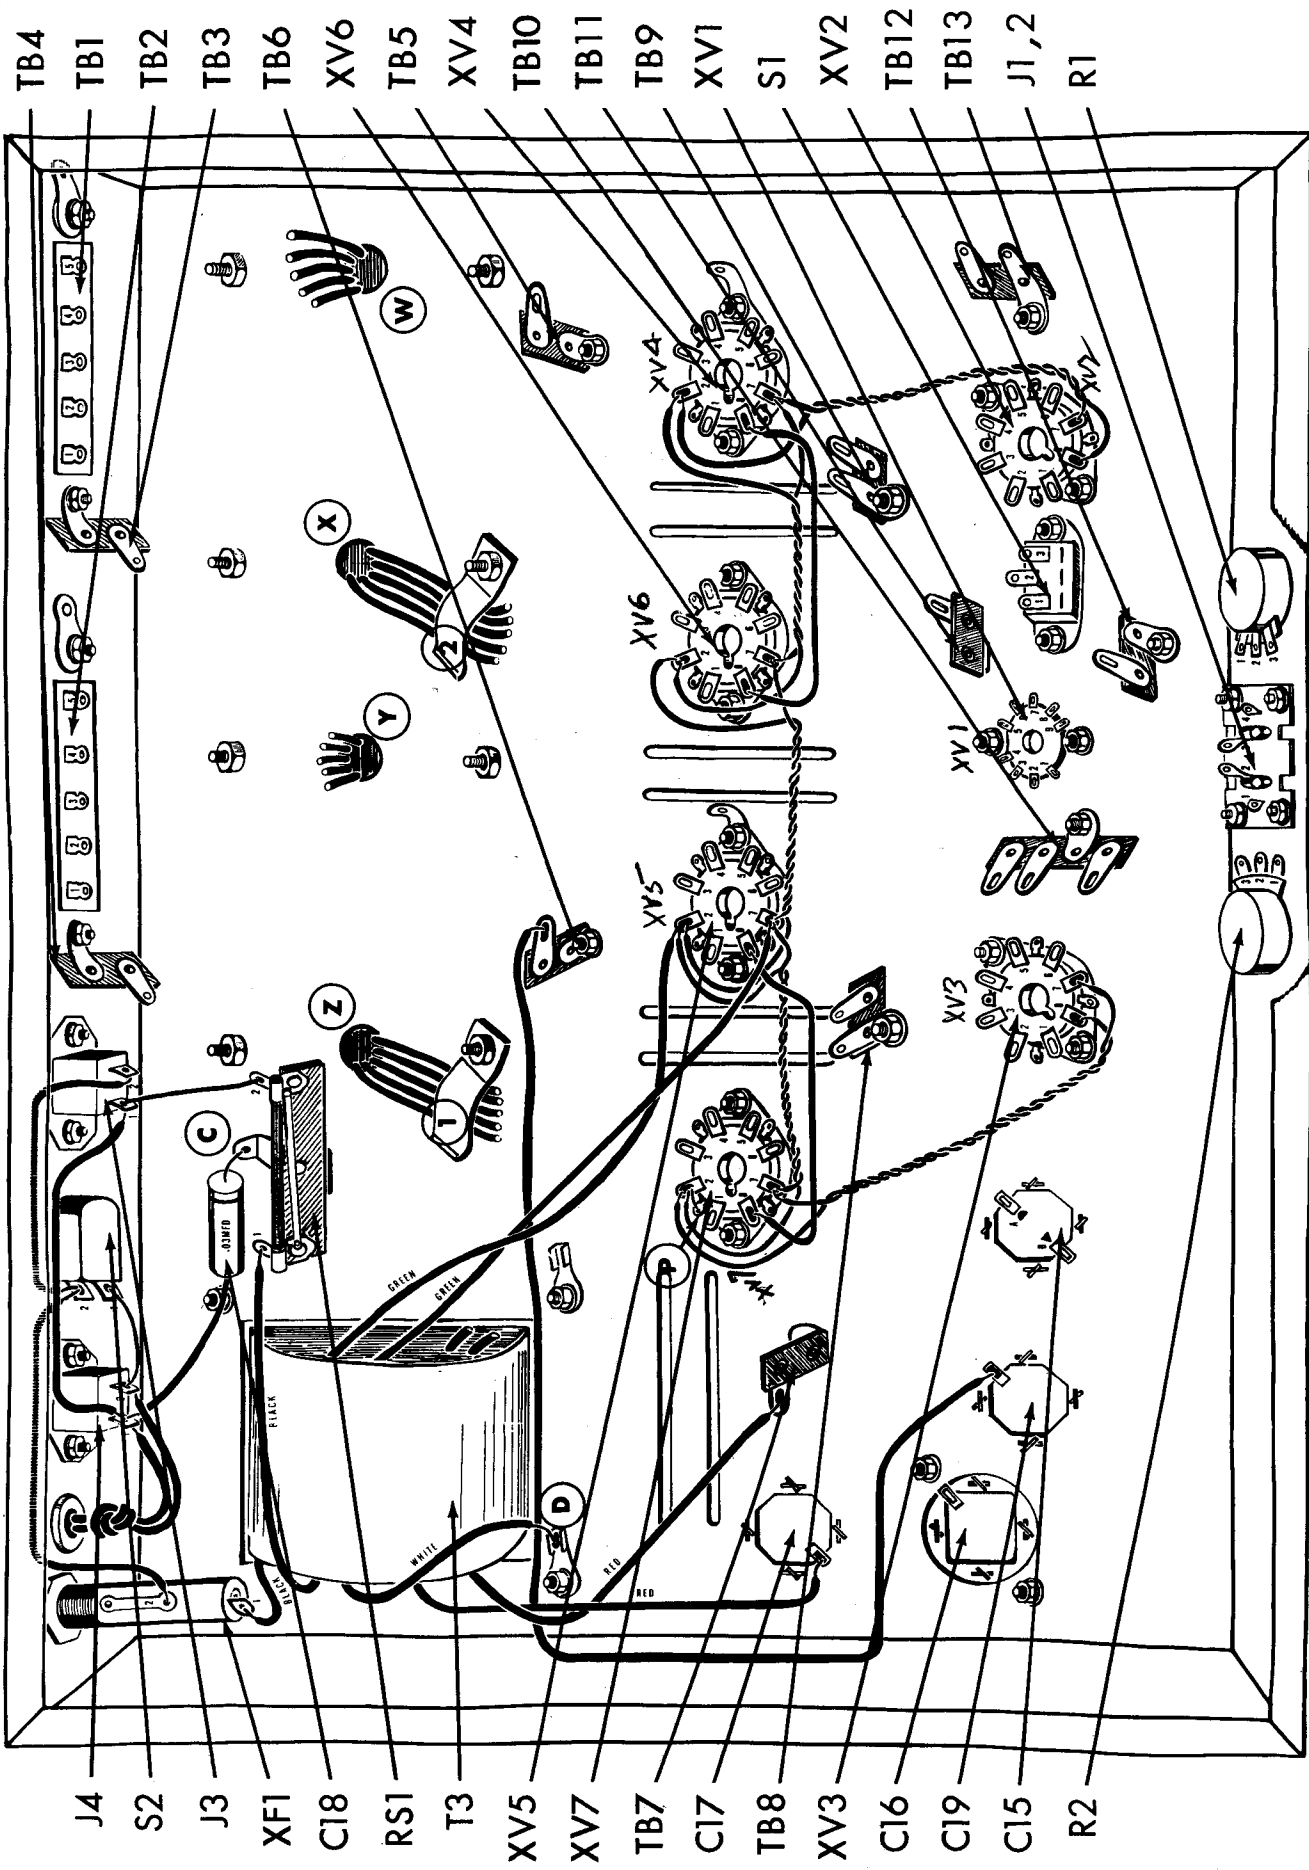

Fig. 3
1. Fig. 1. On power transformer T3, cut both green leads to 9", one red lead to 6", the other red lead to 7", the white lead to 3", one black lead to 2", the other black lead to 4", and the two blue leads to 1/4" each. On each of these leads (except the blue leads), strip the insulation back 1/4". The blue leads will not be used and the insulation should not be stripped off. Mount the transformer as shown with the green leads toward the center of the chassis and the black leads close to the side of the chassis. Use four #8 lockwashers and four #8-32 hex nuts to secure the transformer to the chassis. Under each of two of the lockwashers, mount a #8 ground lug, as shown in Figure 3.
4. Fig. 1. From below the chassis, mount the 3 post 2 right terminal strip, TB 10; the one post left terminal strip, TB 12; and the one post left with ground terminal strip, TB 13, as shown. Orient these terminal strips as shown in figure 3. Use one #6-32 screw, one #6 lockwasher and one #6 hex nut to secure each terminal strip to the chassis.
1. Fig. 3. Connect a 15" piece of red wire from C19 (C) to TB6 (C). Run this lead along the chassis as shown.
2. Fig. 3. From power transformer, T-3, connect the white lead to ground lug "D" (C), the short black lead to XF1-1 (S1) and the longer black lead to RS1-1 (S1). Twist the two red leads together as shown. Connect one red lead to C17 (C) and the second red lead to TB7 (C).
3. Fig. 3. Connect a 5" piece of gray wire from XF1-2 (S1) to S2-2 (C).
4. Fig. 3. Connect a 4" piece of gray wire from S2-2 (S2) to J3-2 (S1).
5. Fig. 3. Connect a 1 1/4" piece of bare wire from J4-2 (C) to S2-1 (S1).
6. Fig. 3. Connect a 5" piece of gray wire from J4-1 (C) to J3-1 (C).
7. Fig. 3. Connect a 2" piece of bare wire from J3-1 (S2) to RS1-2 (S1).
8. Fig. 3. Cut one lead on a .03 mfd (orange, black, orange, black, blue) molded capacitor C18 to 1 1/4". Cover this lead with a 1" piece of spaghetti and connect it to J4-1 (C). Cut the second lead to 3/4" and connect it to ground lug "C" (S1).
9. Fig. 3. Connect one end of a six inch piece of yellow wire to XV4-2 (C) and one end of a 5" piece of brown wire to XV4-7 (C). Twist the two leads together and run them along the chassis as shown. Connect the other end of the yellow wire to XV2-7 (S1) and the other end of the brown wire to XV2-8 (S1).
10. Fig. 3. Connect one end of a 7" piece of yellow wire to XV4-2 (S2) and one end of a 4" piece of brown wire to XV4-7 (S2). Twist the two leads together and run them along the chassis as shown. Connect the remaining end of the yellow wire to XV6-2 (C) and the other end of the brown wire to XV6-7 (C).
11. Fig. 3. Connect one side of a 7" piece of yellow wire to XV6-2 (S2) and one side of a 4" piece of brown wire to XV6-7 (S2). Twist the two leads together and run them along the chassis as shown. Connect the other end of the yellow wire to XV5-2 (C) and the other end of the brown wire to XV5-7 (C).
12. Fig. 3. Connect one end of a 7" piece of yellow wire to XV5-2 (C) and one end of a 4" piece of brown wire to XV5-7 (C). Twist the two leads together and run them along the chassis as shown. Connect the other end of the yellow wire to XV7-2 (C) and the other end of the brown wire to XV7-7 (C).
13. Fig. 3. Connect one end of a 8" piece of yellow wire to XV7-2 (C) and one end of a 7" piece of brown wire to XV7-7 (S2). Twist the two leads together and run them along the chassis as shown. Connect the other end of the brown wire to XV3-8 (S1) and the other end of the yellow wire to XV3-7 (S1).
14. Fig. 3. Connect a 3/4" piece of bare wire from XV7-2 (S3) to ground lug "P" (S1) at XV7.
15. Fig. 3. Connect a 4 1/2" piece of orange wire from XV7-8 (C) to XV5-8 (C).
16. Fig. 3. Connect a 4 1/2" piece of orange wire from XV6-8 (C) to XV4-8 (C).
17. Fig. 3. From power transformer T3 twist the two green leads together. Run them along the chassis as shown. Connect one green lead to XV5-2 (S3) and the other green lead to XV5-7 (S3).